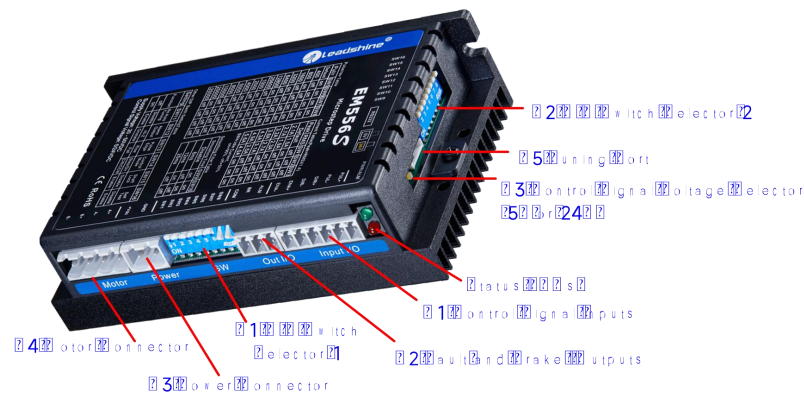

Figure 2 Connectors, DIP switches, and LED locations
(4) Single pulse (step & direction) or double pulse (CW/CCW) is set by DIP Switch SW14
(5) DIR signal requires advance PUL signal minimum 5 μs in single pulse mode
(6) The activated edge of PUL and DIR is set by DIP Switch SW13
(7) The factory setting of control signal voltage is 24V, must need to set S3 (figure 2) if it is 5V
(4) The default control signal voltage is 24V, to set S3 (figure 2) if it is 5V
(5) Enable time to be at least 200ms
The DM556 can accept differential or single-ended control signals (pulse, direction, and enable) in open-collector or PNP connection through the P1 connector (figure 2). It is recommend to add an EMI line filter between the power supply and the drive to increase noise immunity for the drive in interference environments.
The first 8-bit is located on the side (DIP switch selector 1 in Figure 2) and used to configure settings of micro step resolution, output current, and motor standstill current as shown below, the factory setting of SW1-SW8 is **OFF, OFF, OFF, OFF, OFF, OFF, ON, ON**.
The second 8-bit DIP switch is located on the top (DIP switch selector 2 in figure 2), and used to configure settings of control command filtering time, motor auto-configuration, fault output impedance, pulse active edge, control mode, lock shaft, and self-test as shown below, the factory setting of SW1-SW8 is **OFF, OFF, OFF, ON, ON, OFF, OFF, OFF**.
The Third 1-bit selector is located on the top (DIP switch selector 3 in figure 2), used to configure the voltage of control signals. For the safety of optically coupled, the factory setting is 24V, which no need to connect 2K resistors like the old drives, making it easier to use. When the voltage of the control signal is 5V, the S3 must be set to 5V, otherwise, the motor won't work.